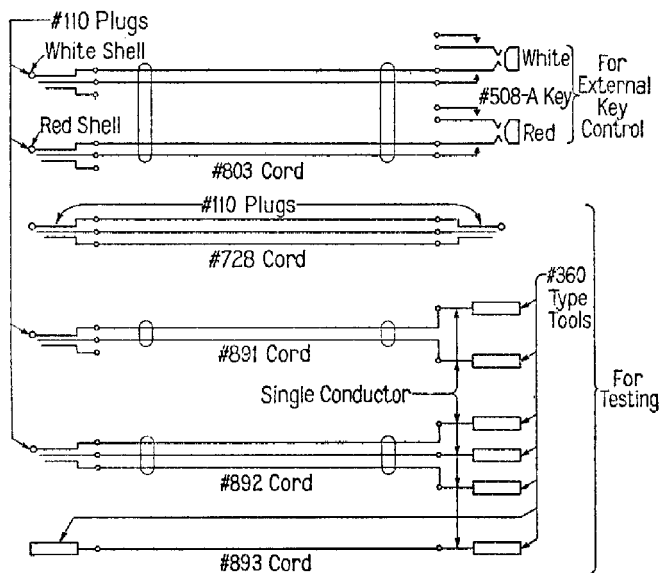

Fig. 6—Cords Used in Connection with No. 35-C Test Set
4.5 Below are listed cords which may be used in connection with the No. 35-C test set for private branch exchange work. These cords are shown in Figure 6.
4.6 The No. 360 type tool shown in Figure 6 is designed for connecting the cords to various other tools used in making connection with apparatus contacts and terminals, and is provided with a colored sleeve to indicate the cord conductor with which it is used: